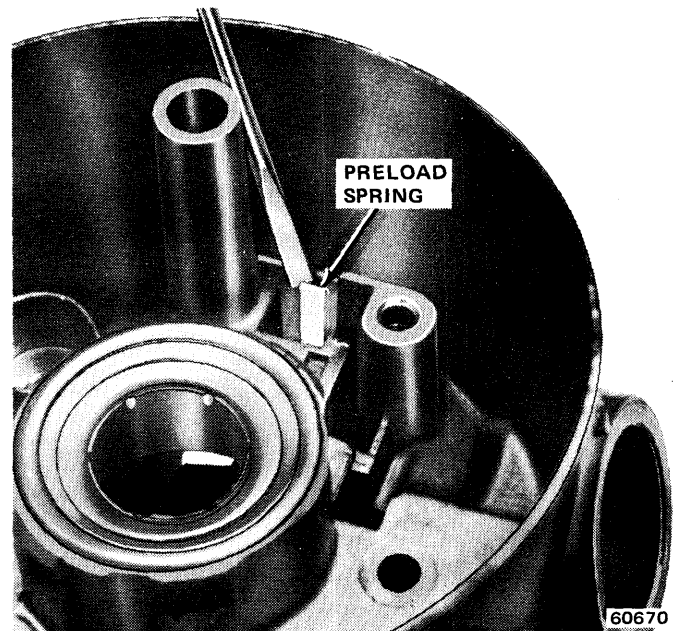

Fig. 11-13 Removing—Installing Rack Preload Spring
(25) Remove rack preload spring (fig. 11-13).
(3) Install rack preload spring (fig. 11-13). Bowed side of spring must bear against lock rack when rack is installed.